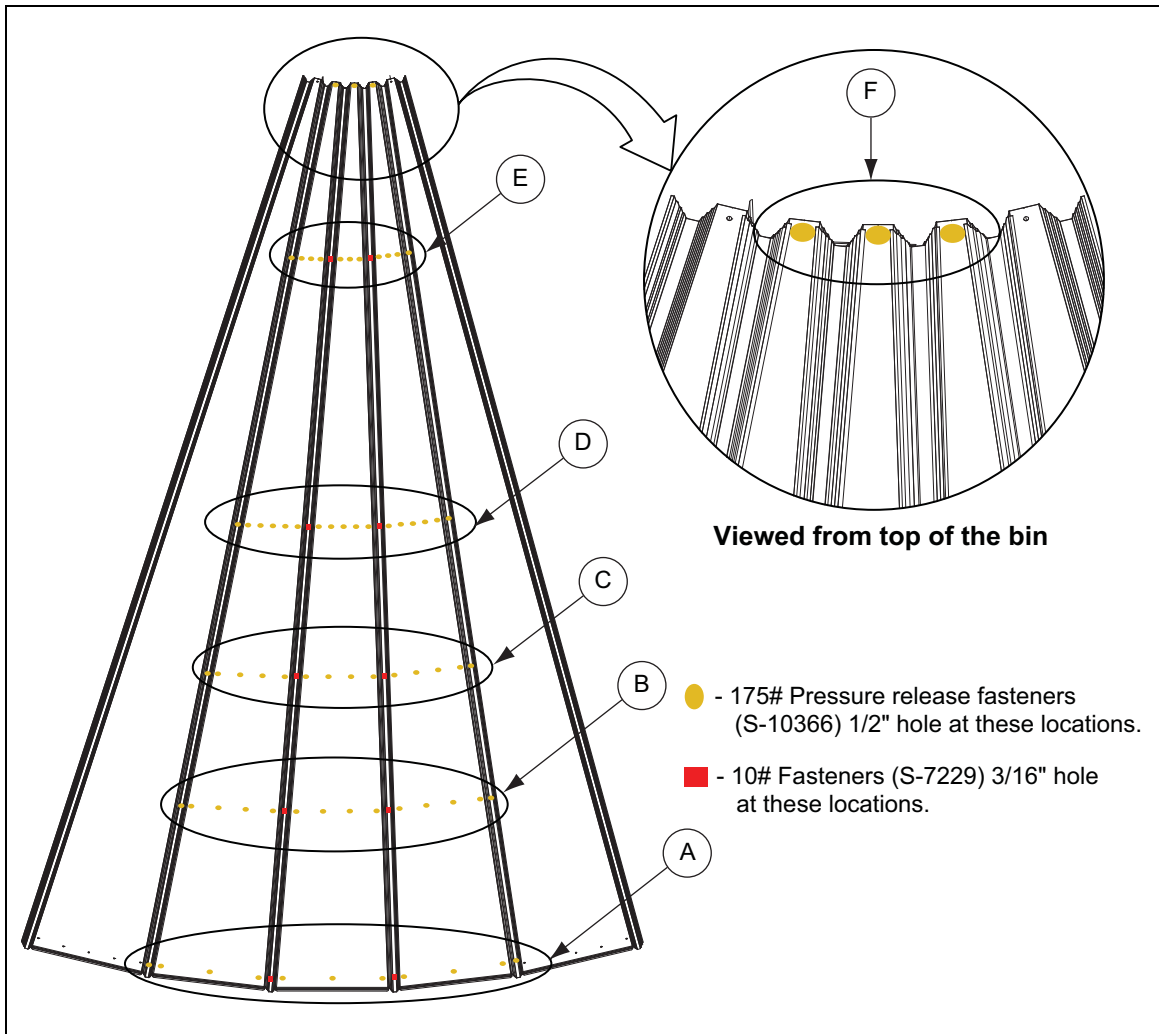

Figure 3
2. Field drill 3/16" pilot holes at all pressure release fasteners (S-10366) (175# - Tan) in the adjacent standard and the vent/explosion panels to install the pressure release self-tapping screws at the following locations: (See Figure 3.)